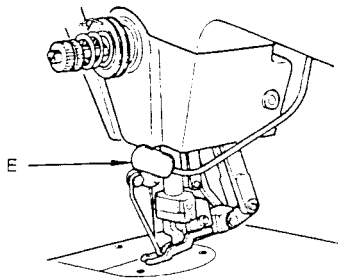

Fig. 14
- When push button **E**, Fig. 14, is depressed, the machine will immediately change from forward to reverse feed for back tacking and return to forward feed when released.